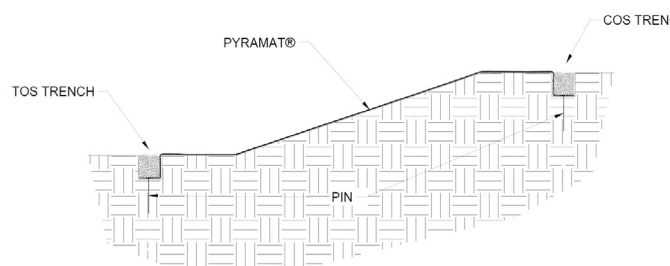

Figure 12: Crest of Slope (COS) trench and Toe of Slope (TOS) Trench complete
1. Begin the **PROPEX** Pyramat laydown process by starting with the downstream/downwind end of the site. To ensure proper pinning of the overlapped areas the proceeding roll width must be laid out before the current roll width can be pinned with exception to the final roll width. For straight sections of a slope, **PROPEX** Pyramat panel lengths should be long enough to construct COS and TOS trenches while also covering the surface of the slope being armored (Figure 12). Panel edges should rest approximately perpendicular to the slope center line. For best results, panels of **PROPEX** Pyramat should be continuous and free from seams or roll end overlaps that are parallel to the centerline of the slope. Panel edge overlapping should follow a pattern of placing each proceeding panel's edge over top the previous panel edge, shingling the panels in the direction of the water flow or prevailing wind.
7. Secure **PROPEX** Pyramat with pins in the TOS trench. Suggested placement of pins for the TOS trench is along the bottom of the trench with pins on 12 in (300 mm) centers (Figure 12).
8. Backfill and compact the TOS trench (Figure 12).